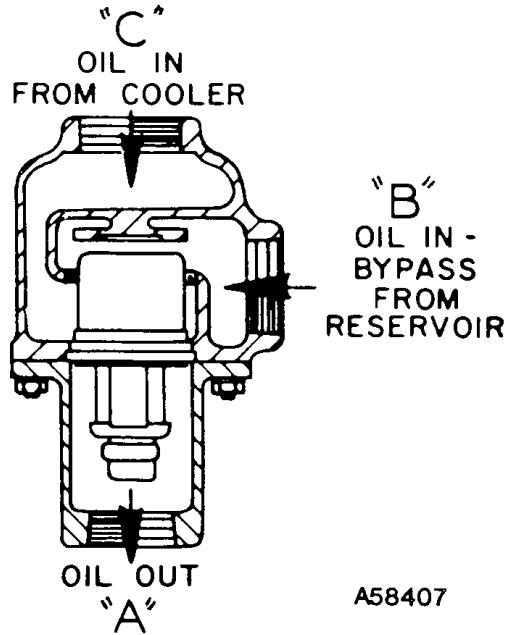

FIGURE 5-8 – THERMOSTATIC MIXING VALVE ELEMENT
**THERMAL CONTROL (THERMOSTATIC MIXING) VALVE** (FIGURE 5-8) is installed in system as shown in FIGURE 5-1, page 28. This valve is used to control temperature of the oil in both air-cooled radiator and water-cooled heat exchanger type oil cooler systems. On start-up with unit cold, element is open to bypass, allowing oil to pass directly from the reservoir to compressor during warm-up. As oil warms, element gradually closes to the bypass allowing more of the oil from the cooler to mix with oil from the bypass.